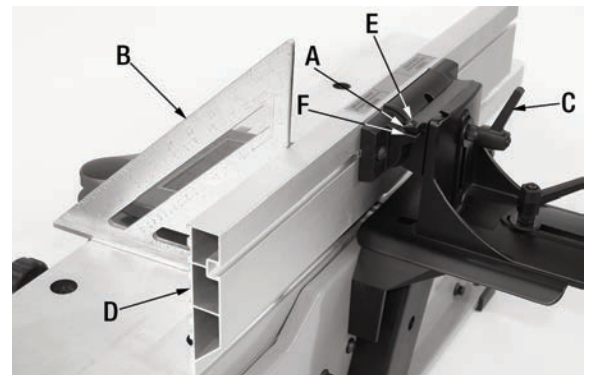

FIGURE 10
- 1) With the fence set against the 90° stop (A) Fig.10, place a machinists square (B) against the table and fence as shown. If the fence is not square to the table, a fine-tune adjustment of the 90° stop will be required.
- 2) Loosen the fence tilt lock handle (C).
- 3) Using your machinists square as a guide, manually set the fence (D) square to the table.
- 4) Hold the fence in place and adjust the 90° stop set screw (E) until it touches the fence bracket (F).